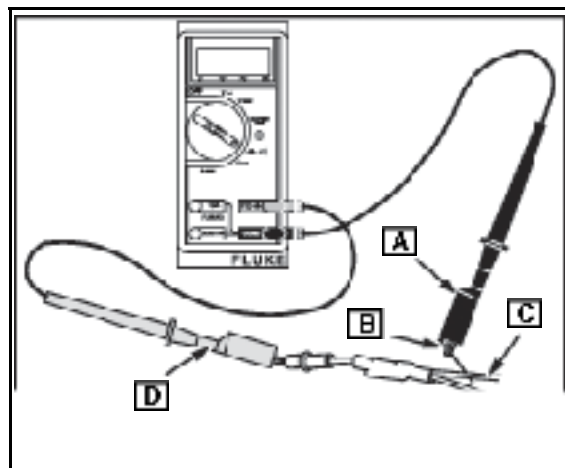

Fig. 32
4. Attach BLACK test lead clip (**A**) to point (**B**) of the RED wire (**C**), Fig. 32. (It may be necessary to pierce wire with pin as shown.)